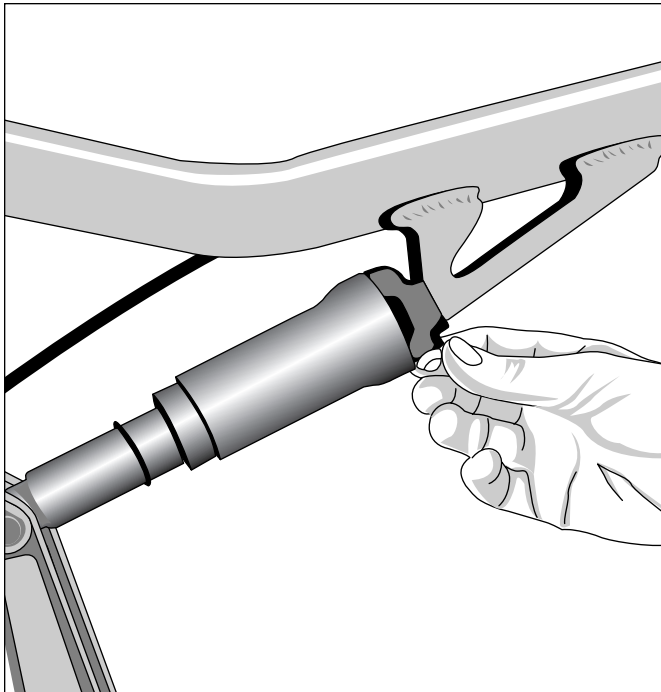

Figure 12-7:
- 5. Adjust the spring tension in front by rotating the spring seat (as shown in Figure 12-7). To reduce tension and increase sag, turn the knob counterclockwise one turn.**
- 6. Adjust the spring tension in front by rotating the spring seat (refer to Figure 12-7). To increase tension and reduce sag, turn the spring seat clockwise one turn.**